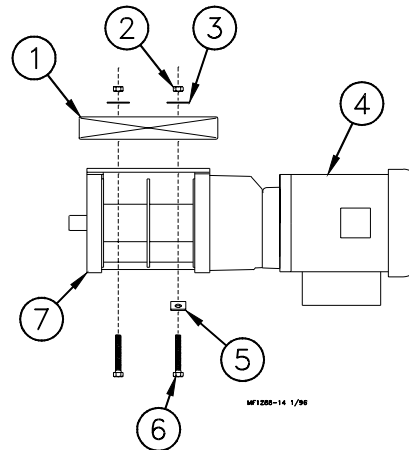
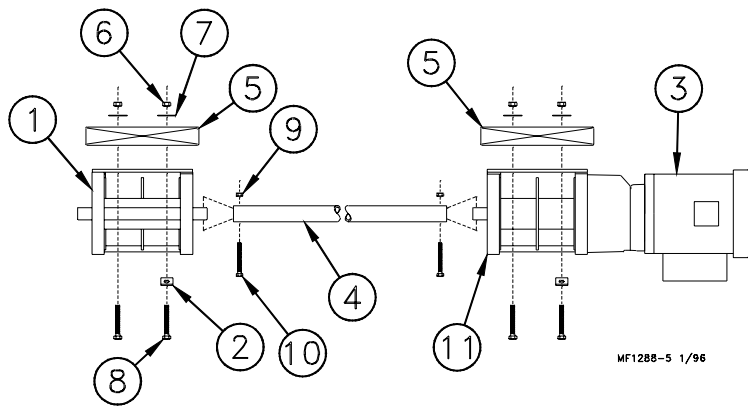

Figure 2. Winch Installation (side view)
Figure 3. Remote Drum Installation (side view)
Secure the Winch to the 2" x 10" (50 x 250 mm), using (4) 3/8-16 x 2-1/2" Grade 5 hex bolts, flat washers and hex nuts. Be sure to install (1) Cable Hook on each side of the Winch, using the 2-1/2" bolt as shown in **Figure 2**.
Connect the Winch to the Remote Drum, using a 1" (25 mm), schedule 40 steel pipe (not supplied), as shown in **Figure 2**. Be sure to install (1) Cable Hook on each side of the Remote Drum, using the 2-1/2" bolt as shown in **Figure 3**.